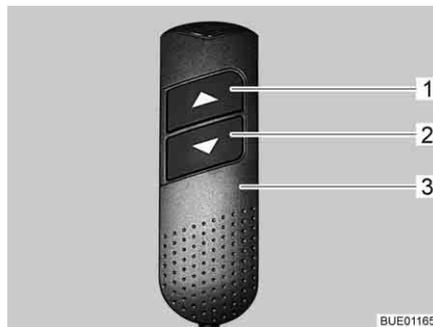

Fig. 132 Manual control unit
- On the manual control unit (Fig. 132,3) push the "▼" button (Fig. 132,2) and keep it pressed. The foot section is retracted. The head sections are raised.
- On the manual control unit (Fig. 132,3) push the "▲" button (Fig. 132,1) and keep it pressed. The foot section is extended. The head sections are lowered.
- On the manual control unit (Fig. 132,3), press the "▼" button (Fig. 132,2) or "▲" button (Fig. 132,1) until the desired position is reached.